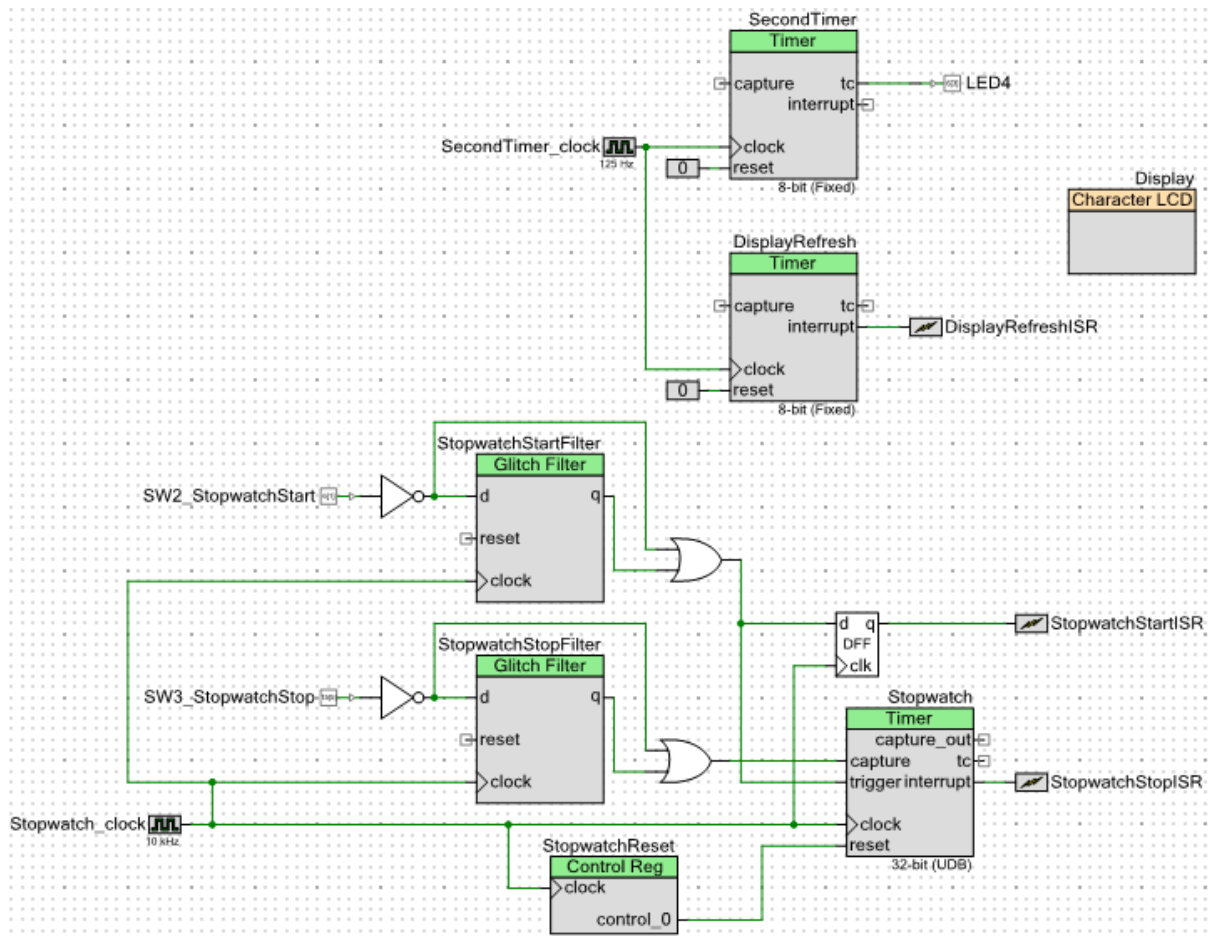

Figure 1: Schematic for Procedure Part D
1. Reopen TopDesign.cysch. The final schematic for this part is depicted in Figure 1.